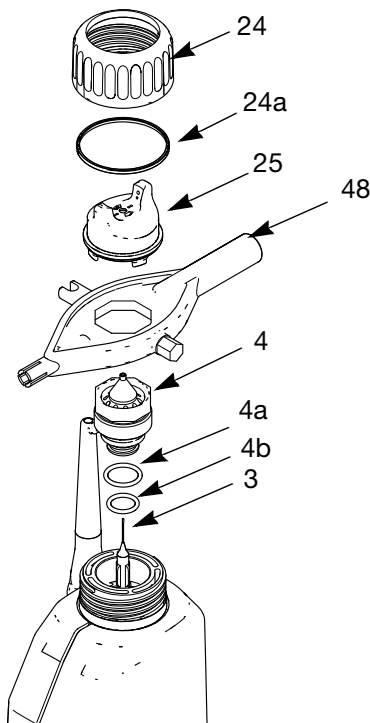

FIG. 19. Air Cap and Nozzle Replacement
2. Remove the retaining ring (24) and air cap (25). See FIGURE 19.
3. Point the gun up while removing the fluid nozzle (4) assembly with the multi-tool (48).